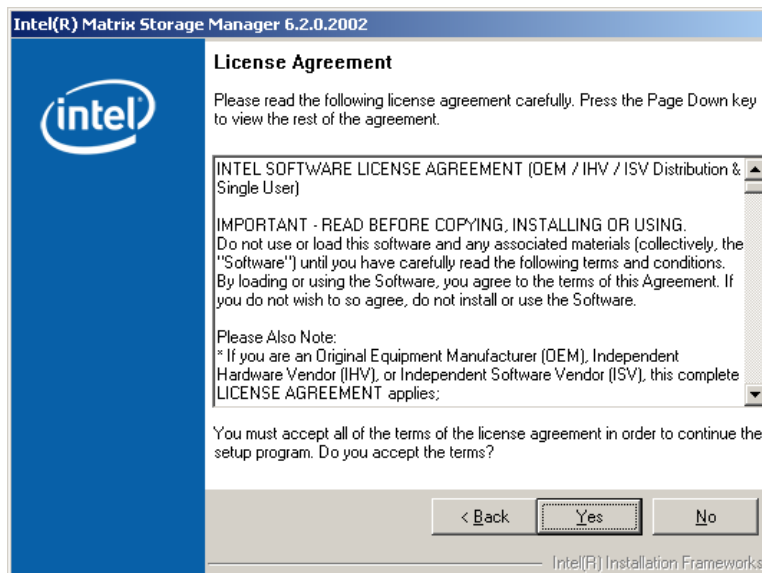

Figure 7-39: Matrix Storage Manager License Agreement
Step 9: Click **NEXT** and a license agreement appears (**Figure 7-39**).